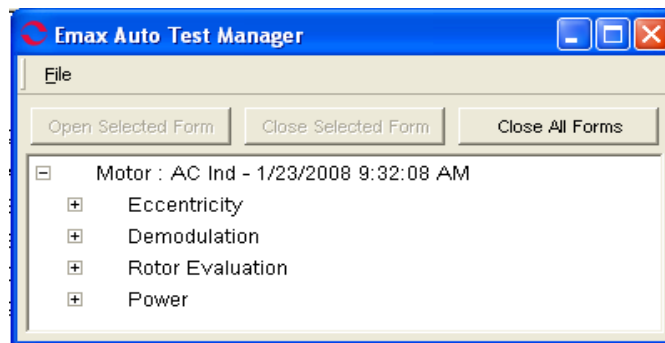
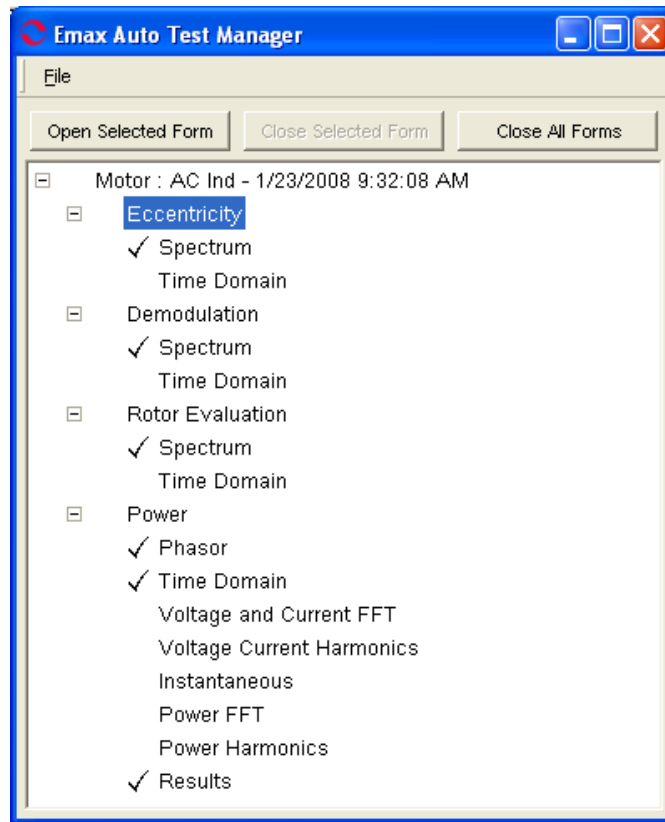

Figure 6-18: EMAX Auto Test Manager Window
Figure 6-19: EMAX Auto Test Manager Window With Menu Expanded
9. The EMAX Auto test Manager window shown in Figure 6-18 can be expanded in order to identify which test results are displayed and make changes to the display. Figure 6-19 shows the expanded menu.